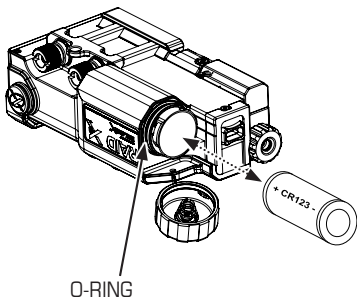

Figure 4.2-1 Replacing the Battery in the RAID Xe
The **RAID Xe** operates on one (1) CR123 battery. When the battery is not correctly installed, the positive ("+") post of the battery cannot make contact. Install as illustrated in Figure 4.2-1. Refer to Table 4.2-1 for total estimated run times after installing a fresh CR123 battery.